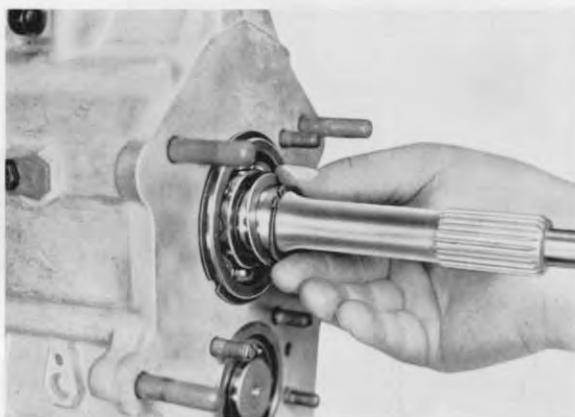

Fig. 55
- Select a spacer (209) such that the circlip (208) sits tightly in the radial groove of the input shaft. Assemble the spacer and circlip (Fig. 55).